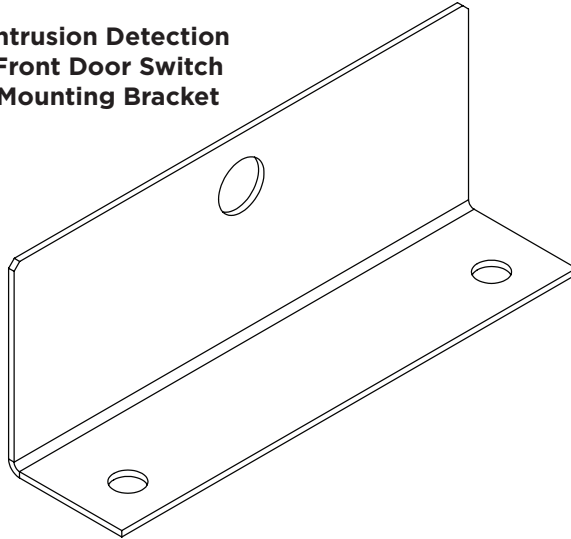

Figure 26 Intrusion Detection Front Door Switch Mounting Bracket
- One front door switch mounting bracket (see detail Figure 26)